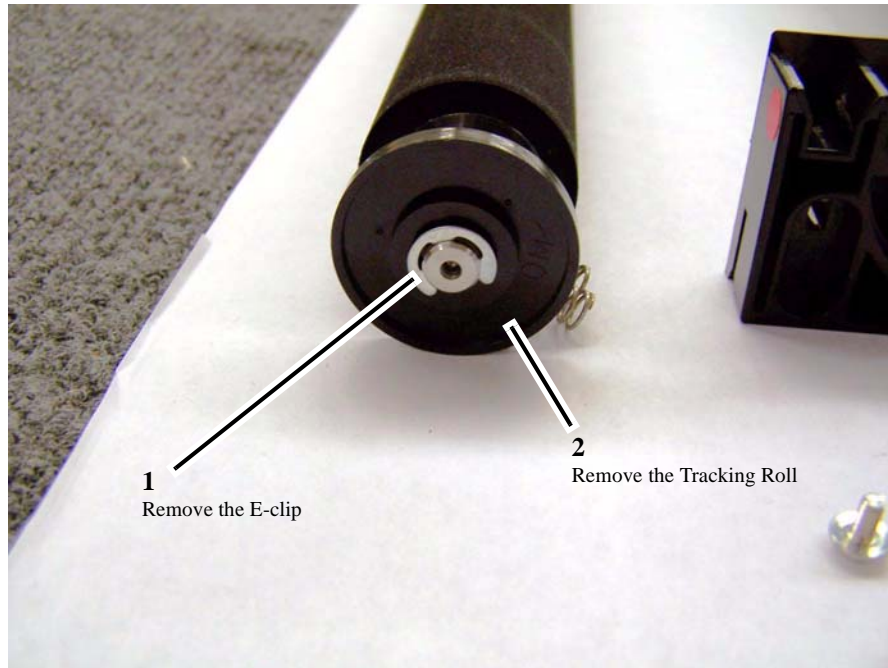

Figure 3 Removals at the left end of the BTR
- c. Remove the E-clip at the left end and remove the Tracking Roll (Figure 3).